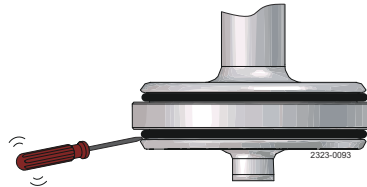

Figure 1:
- Remove old seal ring using a knife, screwdriver or similar. Be careful not to damage the plug surface. If using a screwdriver it must be placed underneath the plug groove (see Figure 1).
This is done with a screwdriver and always underneath the plug see Figure 1. It must be done at one or two different points on the circumference.